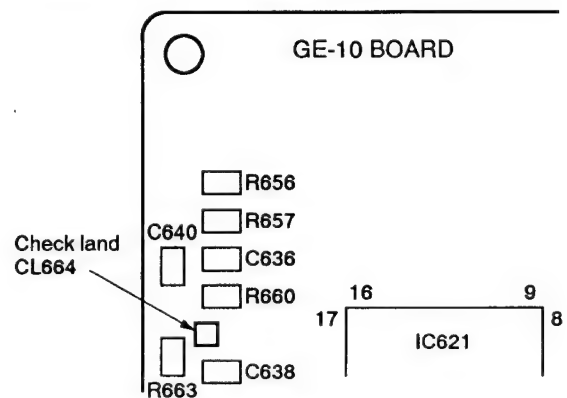

Fig. 7-11.
Measurement Point	CL664 (See Fig. 7-11) or Pin ⑳ of IC621